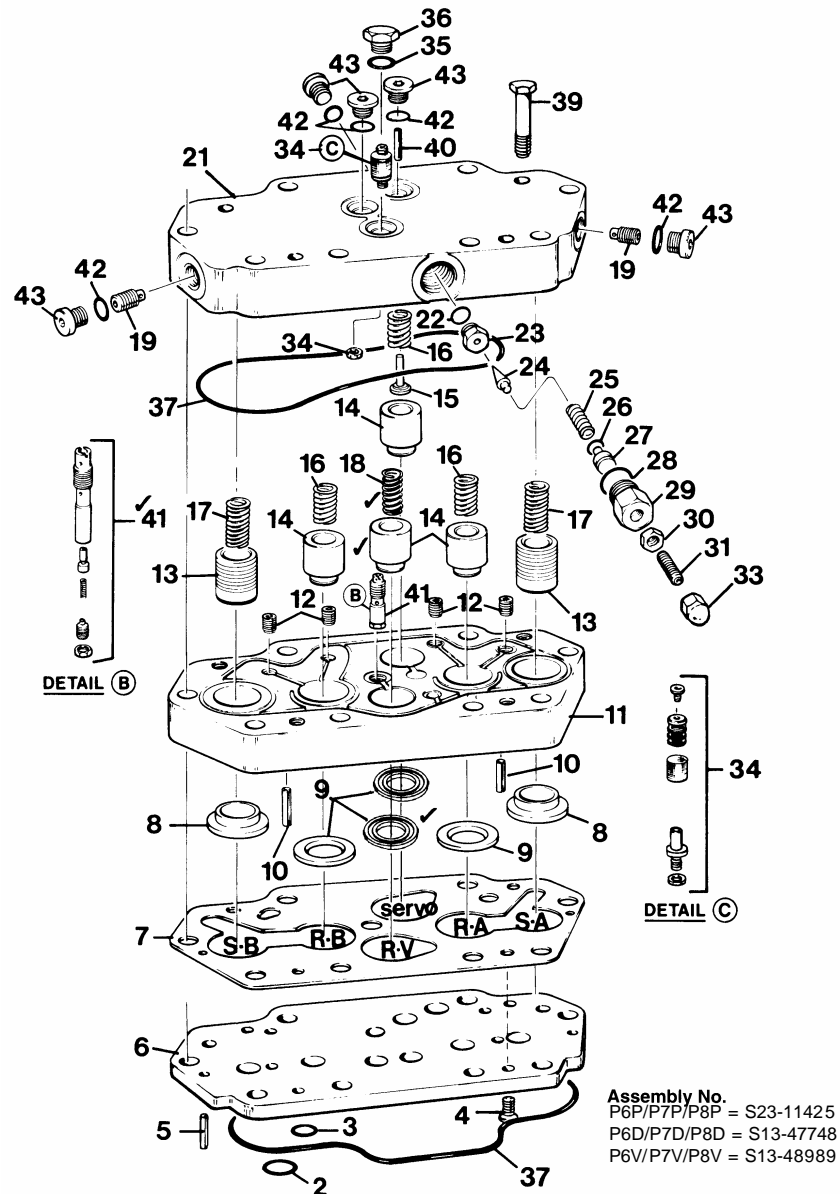

FIGURE 10 VALVE BLOCK ASSEMBLY (Before 7-93)
**PARTS LIST FOR FIGURE 10**
See Figure 10.